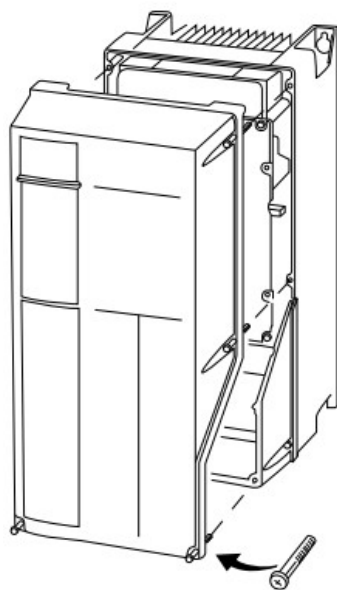

Fig. 3 — VFD Front Cover
4. Remove the front cover of the VFD to access the electrical connection terminals. See Fig. 3 and 4 for details.